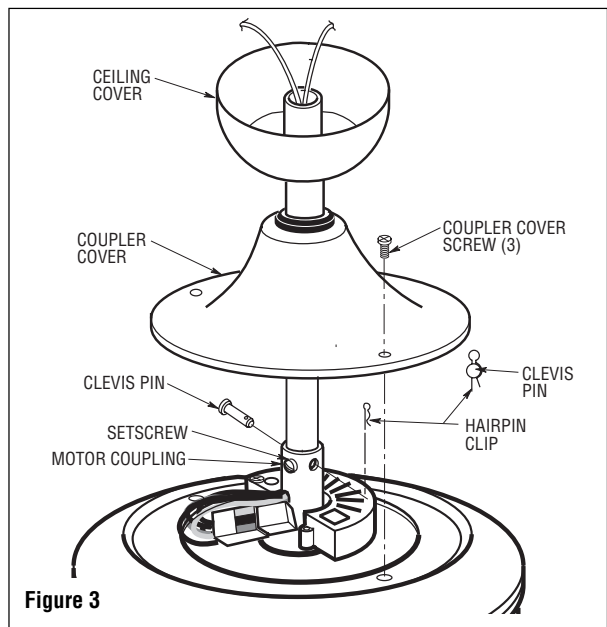

Figure 3
3. While pulling up on the downrod, securely tighten the setscrew in the motor coupling (Figure 3).
5. Make sure the grommet is properly installed in the coupling cover then slide the coupler cover on the downrod until it rests on the motor housing. Place the ceiling cover over the downrod. Be sure both the ceiling cover and the coupler cover are oriented correctly (Figure 3).